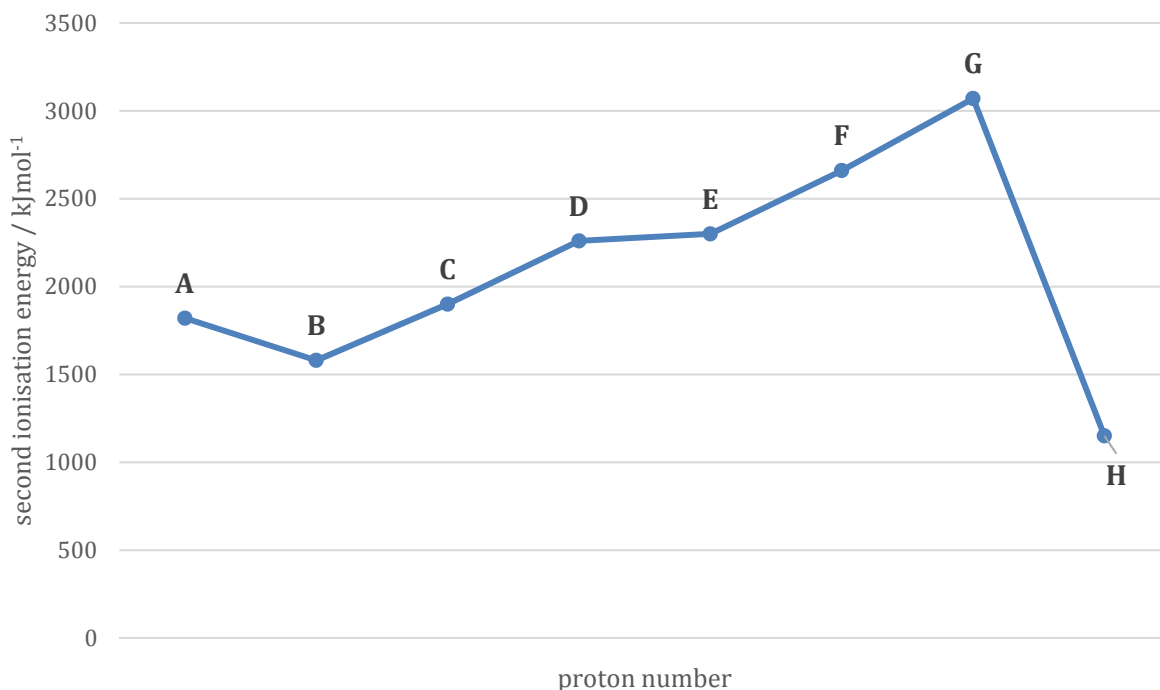

Fig.1.1
- 1 (a) Fig. 1.1 shows the second ionisation energies of eight elements with consecutive proton numbers and one of the elements is aluminium.